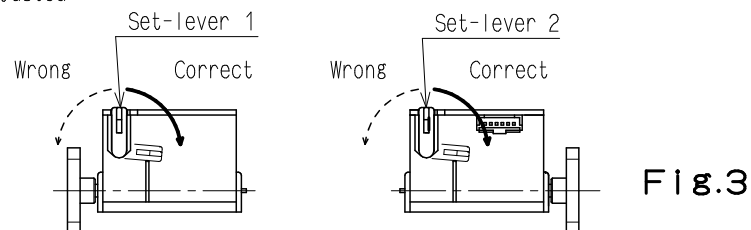

Fig.3
(4) Be sure Set-lever is turned 90° to the arrow of direction. (Refer to Fig.3)